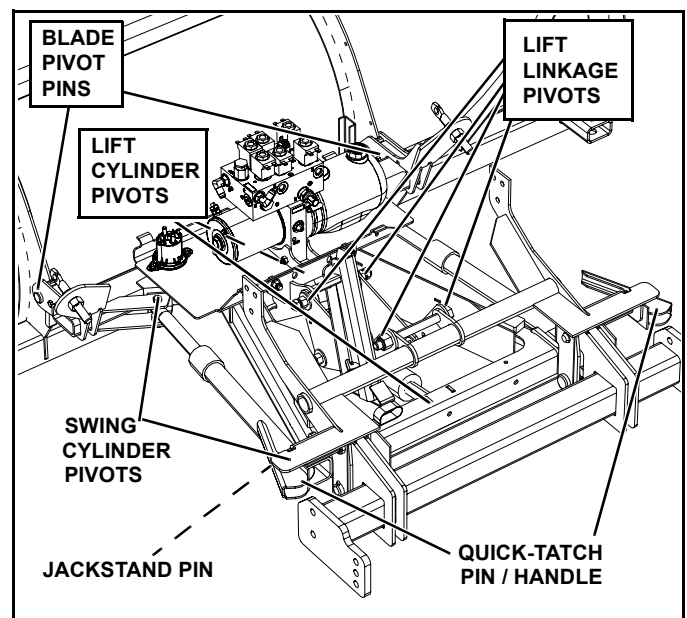

Figure 2-1
3. Apply a small amount of light oil to: Quick-tatch pin and handle assemblies, pivot pins between the blade and swing frame, and pivot pins at lift and swing cylinders. Also lubricate jackstand pins. (See Figure 2-1)